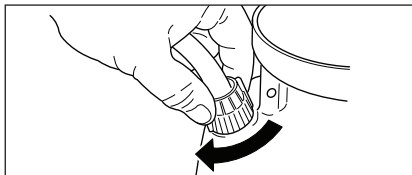

Figure 2. Tighten Hose Nut
2. Slide hose nut along hose and over the threads on the tank. Turn hose nut clockwise and tighten securely. See Figure 2.